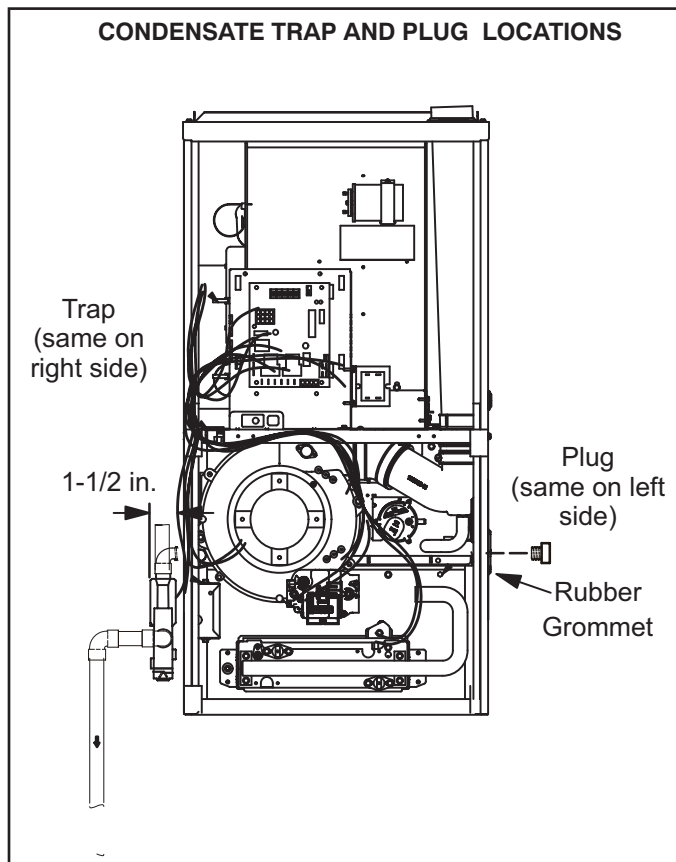

FIGURE 43
This unit is designed for either right- or left-side exit of condensate piping. Refer to FIGURE 43 and FIGURE 45 for condensate trap locations.
- 2 - Use a large flat head screw driver or a 1/2" drive socket extension and remove plug (figure 43) from the cold end header box at the appropriate location on the side of the unit. Install provided 3/4 NPT street elbow fitting into cold end header box. Use Teflon tape or appropriate pipe dope.